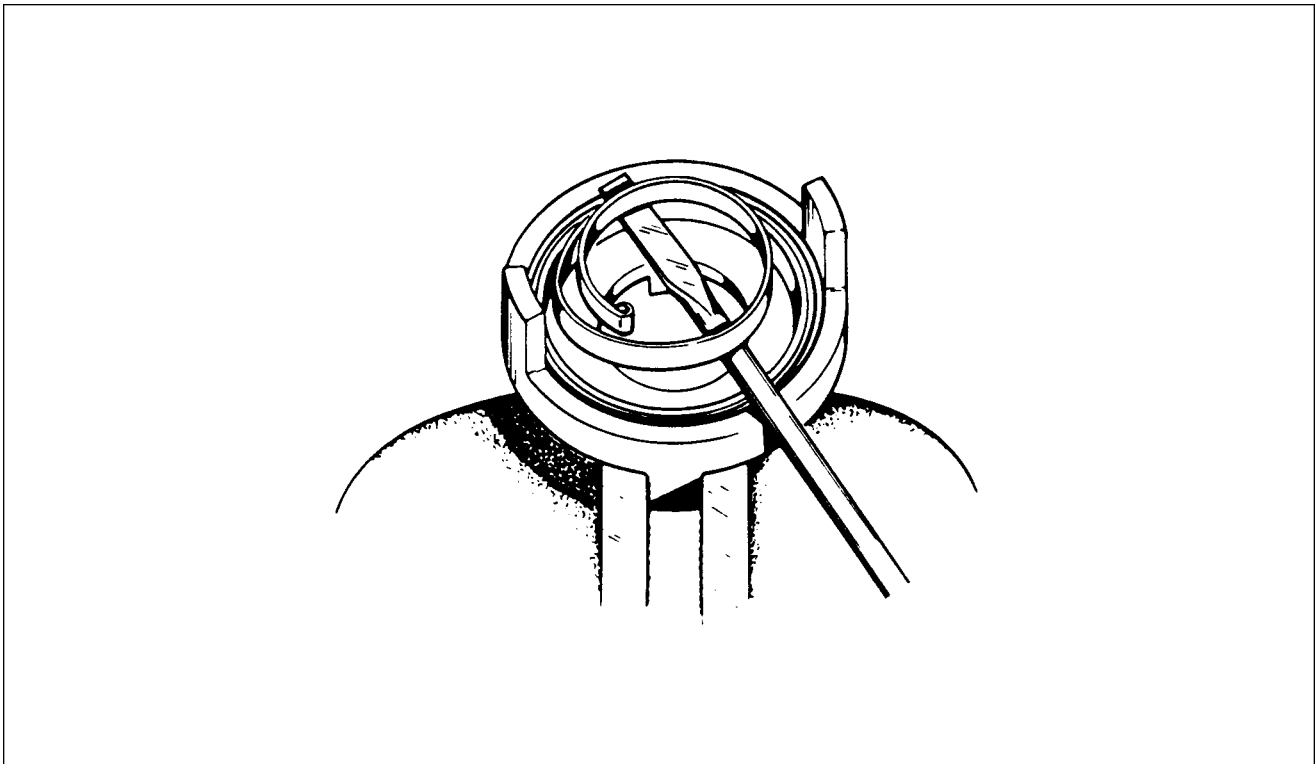

Figure 74-19. Lifting Inner End of Spring
6. Pry up one and one-half turns at inner end of spring with a small screwdriver and support in position as shown in figure 74-19.